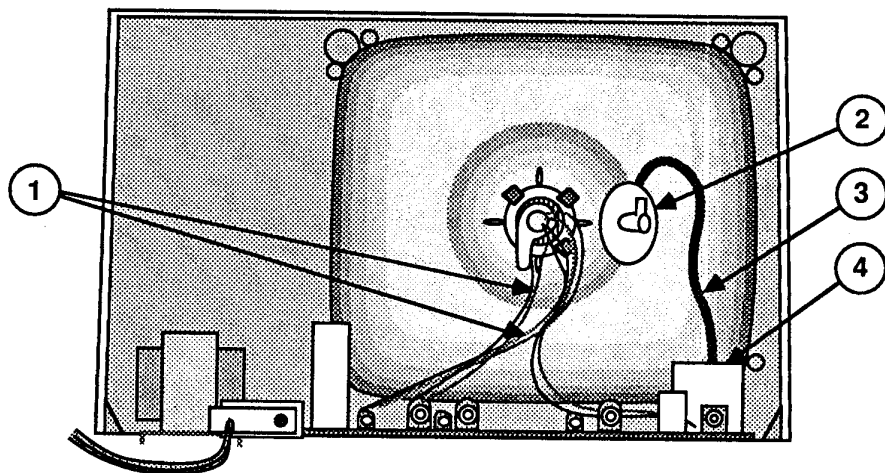

FIGURE 4
8. When the rear cover is off, do not touch the yoke wires (Figure 4, #1), the anode connector (Figure 4, #2), the anode wire (Figure 4, #3), or the flyback transformer (Figure 4, #4).